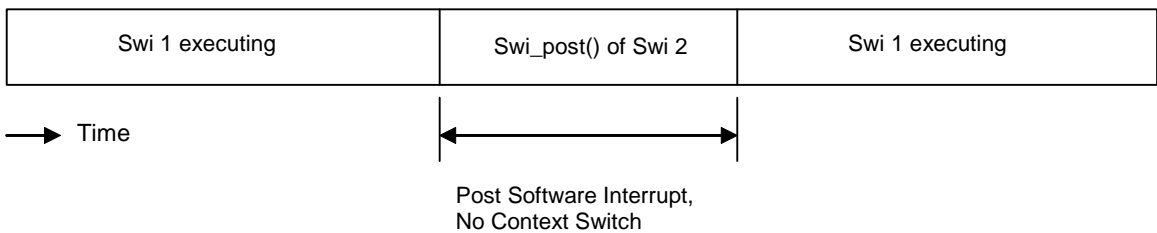

Figure C-4 Post Software Interrupt without Context Switch
- ❑ **Post software interrupt, no context switch.** This is a measurement of a Swi_post() function call, when the posted software interrupt is of lower priority than currently running Swi. Figure C-4 shows this case.